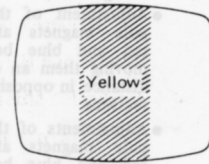

Figure 2
- (1) Produce a yellow raster by short-circuiting the base and emitter of Q653 (B-DRIVE-1) with a short lead.
- (2) With the deflection yoke positioned fully forward, adjust the purity magnet so that the yellow bar is at the center of the screen with normal vertical centering.
- (3) Slide the deflection yoke slowly backwards to produce a uniform yellow raster (Figure 2).
- (4) Produce the primary color rasters – red, green and blue – and make sure no contamination is observed for each color.